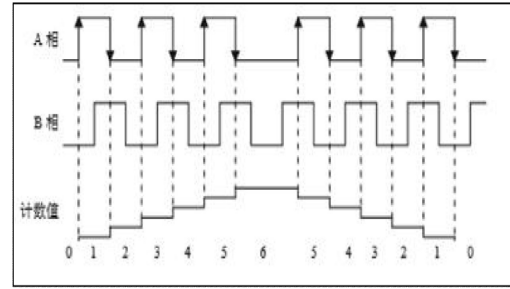

Figure 3.1.10 2-Phase 2 Incremental Encoding Mode
- Encoder Input Mode: Select from the following options based on the encoder used: 2-phase 4-increment, 2-phase 2-increment, and 2-phase 1-increment. As shown in Figure 3.1.10.